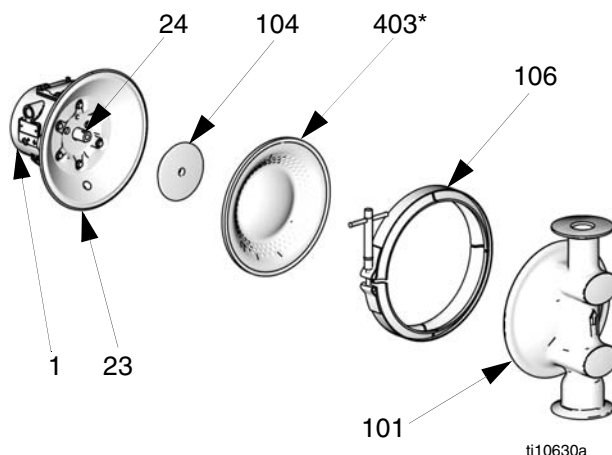

FIG. 12
3. Remove the clamps (106) holding the fluid covers (101) to the air covers (23). Pull the fluid covers (101) off the pump. See FIG. 12.
5. Diaphragms are assembled handtight. To loosen, grip both diaphragms securely around the outer edge and rotate counterclockwise. One diaphragm assembly will come free and the other will remain attached to the shaft. Remove the freed diaphragm (403) and air side plate (104).
6. Pull the opposite diaphragm assembly and shaft (24) out of the center housing (1). Hold the shaft flats with a 19 mm open end wrench and remove the diaphragm and air side plate from the shaft.
7. Inspect the diaphragm shaft (24) for wear or scratches. If it is damaged, inspect the bearings (19) in place. If the bearings are damaged, refer to page 24.
8. Reach into the center housing (1) with an o-ring pick and hook the u-cup packings (402), then pull them out of the housing. This can be done with the bearings (19) in place.